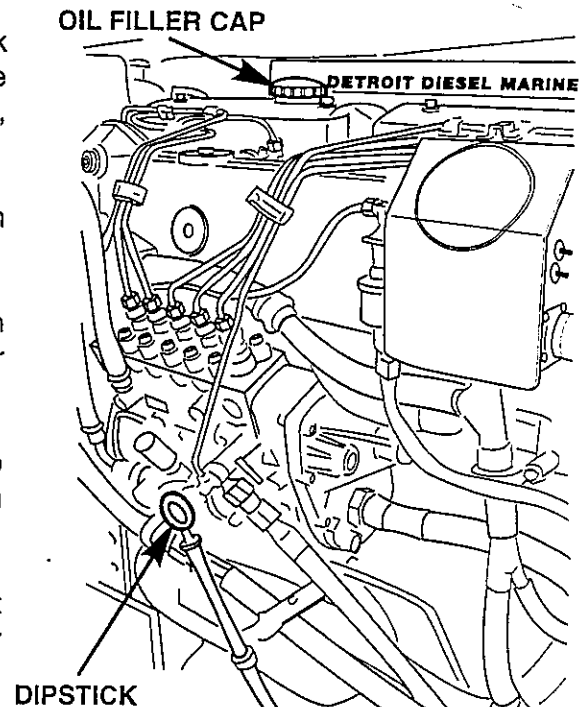

Figure 5-2 Checking Engine Oil
4. See Figure 5-2. Check engine oil level. Pull out dipstick and make sure level is up to the upper mark.